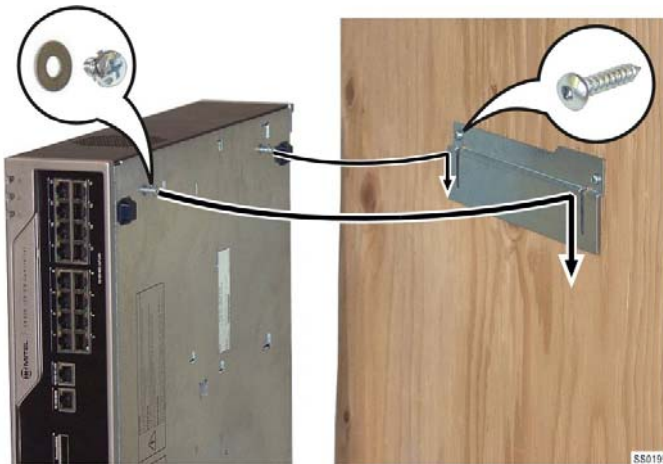

Figure 24: Wall-mounting the CX/CXi
2. Locate the two holes on the bottom of the Controller as shown Figure 24.